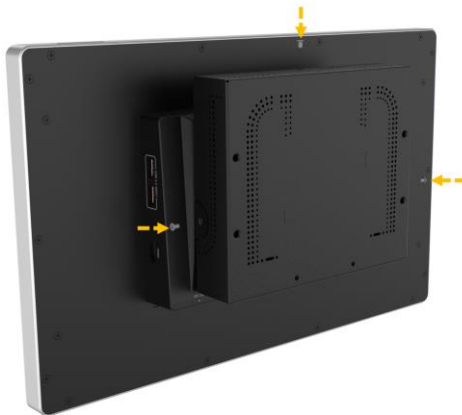

Figure 3-5: Mounting with Wall Mount Brackets
Step 5: Lock the AUPS2-B20 Series back into the VEAS mounting bracket to complete the VEAS installation (VEAS+WALL MOUNT installation, skip this step). (Figure 3-5).